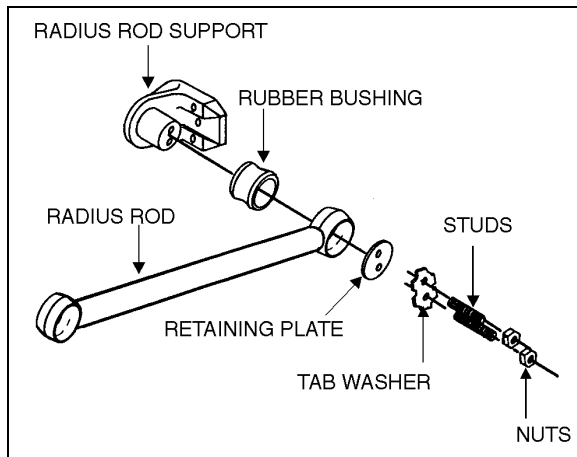

FIGURE 44: TYPICAL RADIUS ROD SETUP 16010
- Flatten the tab washer which secures the two retaining nuts (or bolts), then unscrew the nuts (or bolts) at each extremity of the radius rod (Fig. 44).